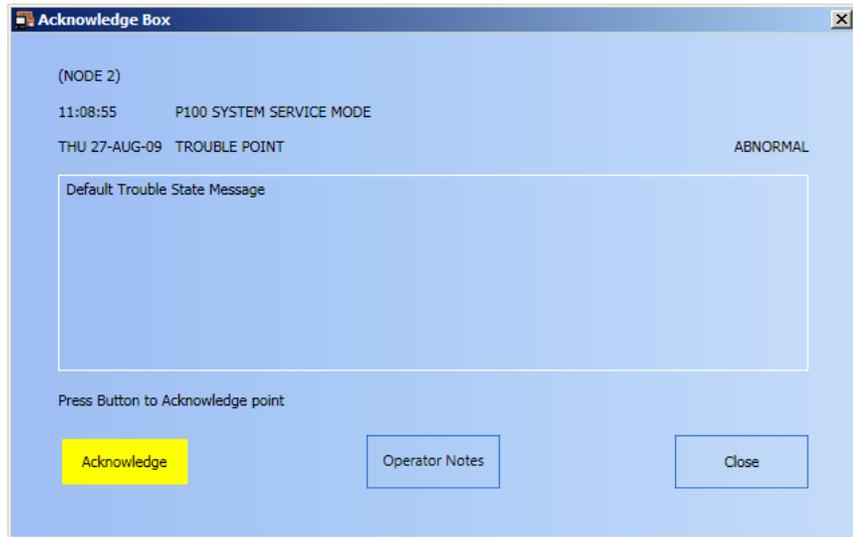

Figure 5-4 Acknowledge Box Window
3. Once you find an unacknowledged (flashing) alarm signal, click on it. An **Acknowledge Box** window appears as shown in Figure 5-4.